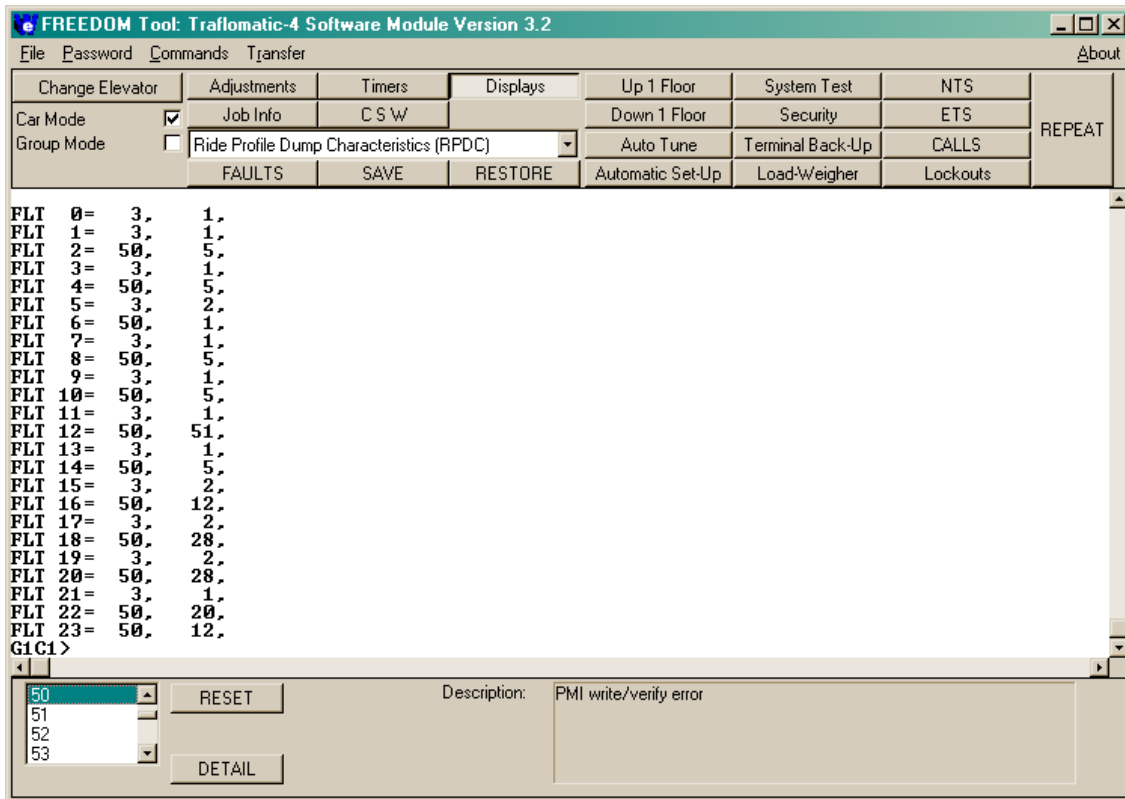

Figure 59
**Displays:** Displays are used to assist in diagnosing certain elevator controller functions in regards to elevator operation status. When the **Displays** selection button is pressed the Selection Bar updates to show the different display features of the T-III and/or T-IV elevator control systems. Figure 59 shows the FREEDOM Tool main window after a display Item has been selected from the Selection Bar.